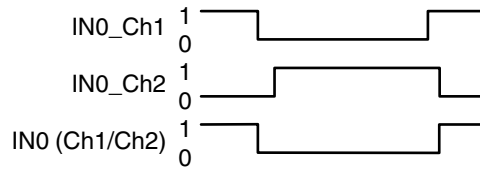
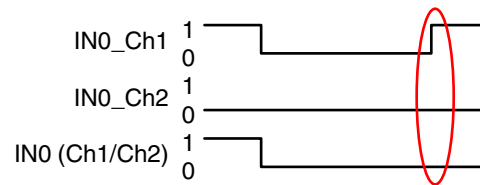

Figure 7-11 Correct signal change
Figure 7-12 Error during signal change
Key for Figure 7-11 and Figure 7-12
In Figure 7-12, the condition that both signals must be in the opposite state before the change in state is not met. In this case, the diagnostic message is generated.
- "1" if a "1" signal is present at channel 1 of the input and a "0" signal is present at channel 2 of the input **and** no error has been detected and the conditions are met for a change in state according to Figure 7-12.